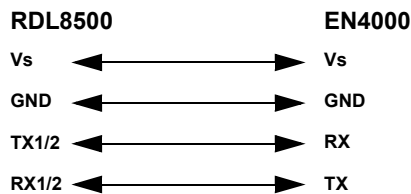
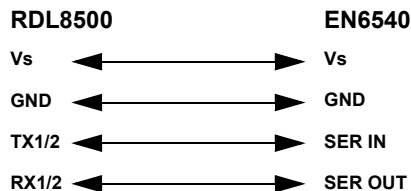
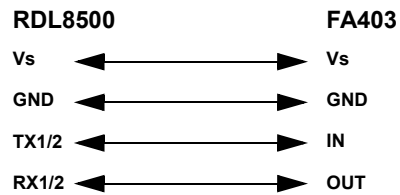

Figure 4 RDL8500 to EN4000 connections
Figure 5 RDL8500 to EN6540 connections
Figure 6 RDL8500 to FA403 connections
3. Consulting Figure 4, "RDL8500 to EN4000 connections", Figure 5, "RDL8500 to EN6540 connections", or Figure 6, "RDL8500 to FA403 connections", connect the gateway to the RDL8500 using 4-conductor, 22 gauge, unshielded wire with a maximum length of 50 feet.